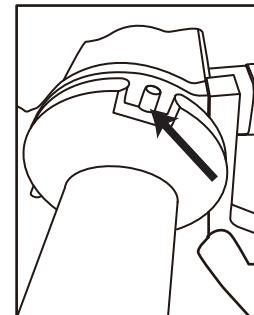
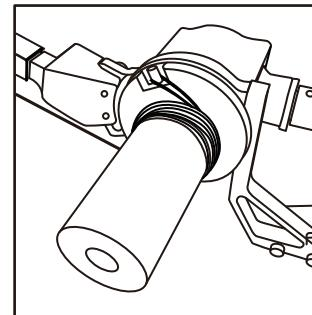

Fig 3
Fig 4
- A. When pulling underground or from below, make a loop in the end of the polyline/ mule tape and attach the eye around the Polyligne/Mule Tape Pin (10) on the Capstan (1) (Fig 3). This will allow the polyline/mule tape to continuously accumulate onto the Capstan (1) (Fig 4). Switch the 18-Volt drill into REVERSE and payoff like most conventional wire pullers.